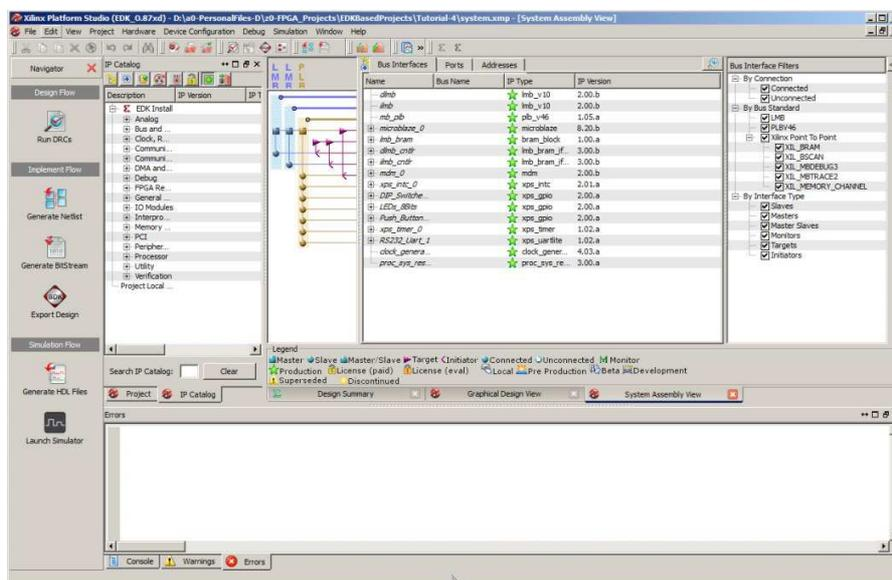

Figure 13. Xilinx Platform Studio - System Assembly View
This is the final screen of the wizard; clicking “**Finish**” will end the wizard and generate the required files on the folder specified at the beginning of the wizard. Click “**Finish**” and then check the folder “**C:\Projects\EDK\_Projects\mydesign**” it should look as shown in **Figure 13**.
When the “Base System Builder” is done the XPS window should look like Figure 13.
**Step 11:** The XPS window (Figure 13) opens at the “System Assembly View” which shows the system components and their interconnection. The system assembly view has three tabs: